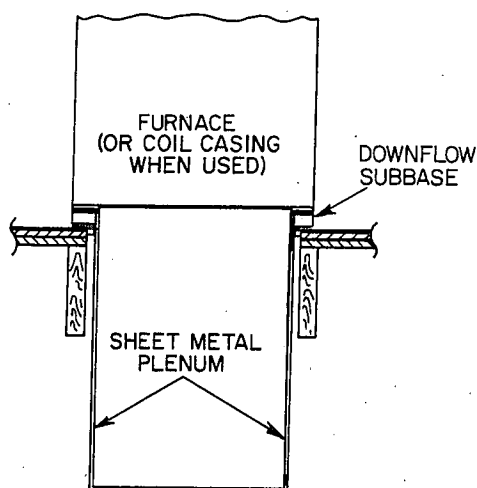

Fig. 6—Furnace, Plenum, and
2. When completed, downflow subbase, plenum, and furnace (or coil casing when used) should be installed as shown in Fig. 6.